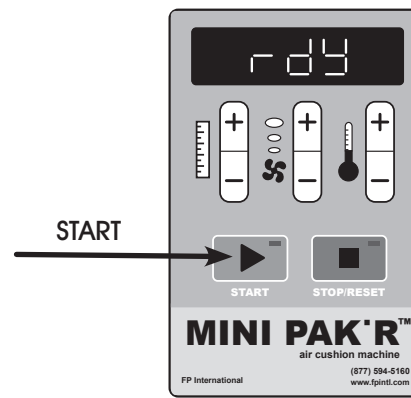

Figure 11
4. Press Start Button again when green LED stops flashing and Display reads "rdy". (See Figure 11)